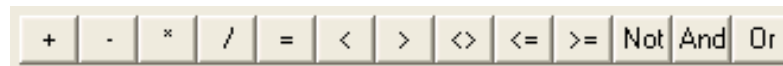

Figure 37 - Operators Buttons
13. The **Operators** buttons (Figure 37) allow you to enter an operation descriptor based on the selected button.